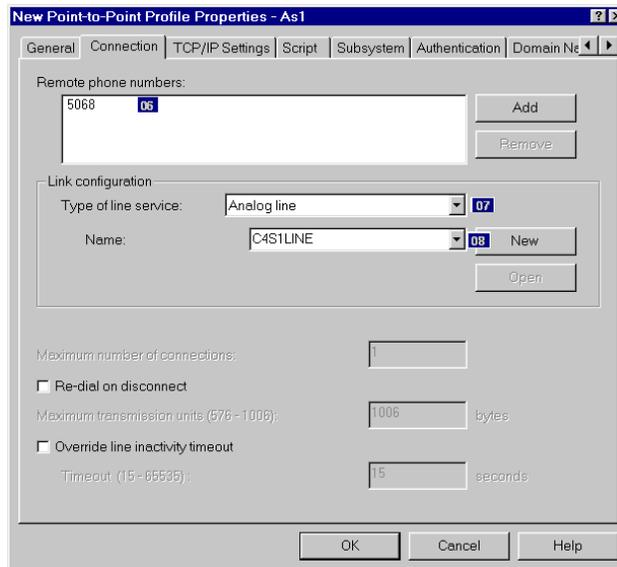

Figure 96. Creating a new line for AS1 on the Connection tab
2. Click the **Connection** tab (Figure 96 on page 112).
Click **OK**. Then, the Connection display shown in Figure 96 on page 112 appears again.